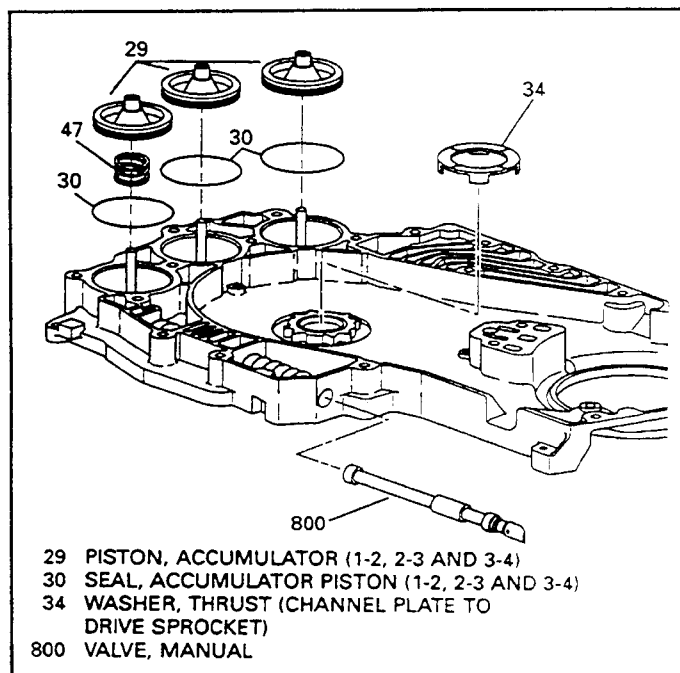

Figure 167
1. Install new seals on the 3 plastic accumulator pistons as shown in Figure 167.
3. Install the 1-2 accumulator assist spring in the location shown in Figure 167.
4. Install the accumulator pistons into the channel plate over the accumulator pins, as shown in Figure 167.
8. Install the channel plate to drive sprocket thrust washer (34) onto the channel plate and retain with "Trans-Jel", as shown in Figure 167.